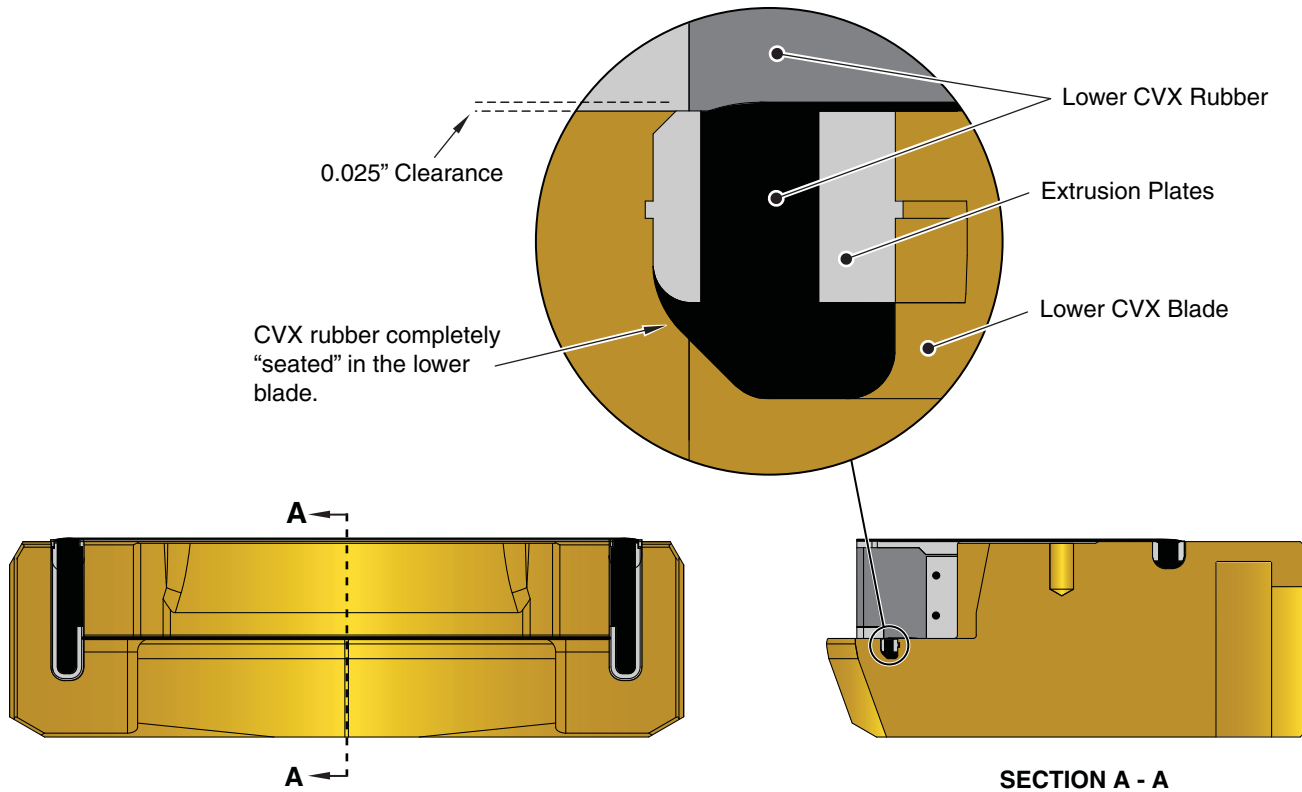

Figure 5-89. Proper Rubber Installation
- Using a hammer and wooden block, begin at one end to tap the seal into the groove of the blade. As the seal enters, continuously tap and move the wood block 2 inches along the seal length to other end. During this procedure the vise grips will be released. Continue tapping every 2 inches along the length of the seal, until the seal is properly seated into the lower blade (see Figure 5-89).
When installed properly, the extrusion plates of the lower CVX rubber must not protrude more than 0.025" above the lower CVX blade, as shown in Figure 5-89. Depending on the block tolerances, the rubber may extrude considerably more, and may be shaved when the rams are closed. This shaving of the rubber is acceptable, as there is ample rubber left to seal on the blade. Expect a maximum of 0.060" to be shaved from the center of the ram rubber.